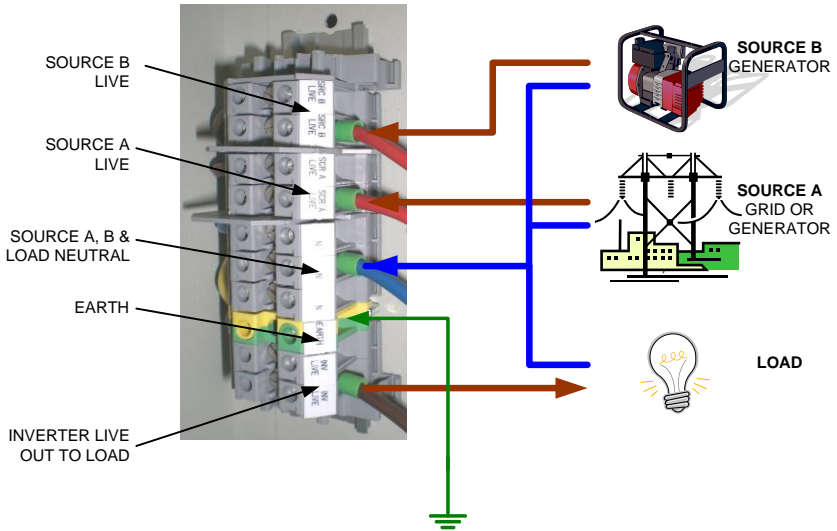

Figure 21: Single Phase AC Input/Output Connections for One Inverter Module
- a) Single phase with single inverter module (Refer Figure 21).